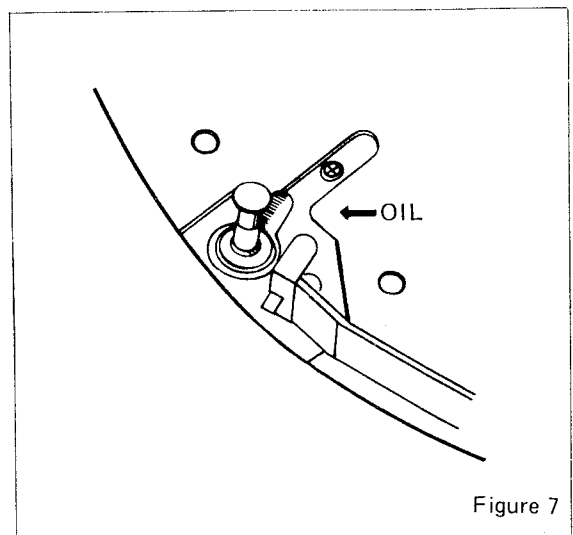

Figure 7
1. Lubrication (Figure 7)
Remove the Turntable platter as described previously in "Removal of Belt" and apply three or four drops of oil to the point shown in figure 7. Be sure to avoid contact with the pulley or belt when lubricating. If these become oily, wipe clean with soft cloth dipped in ethyl alcohol.